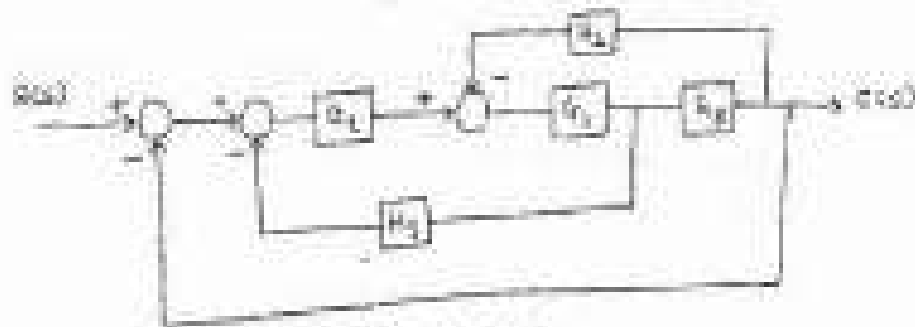

Figure 2-b
- b) Reduce the block diagram shown in figure 2 b and find transfer function. [8]